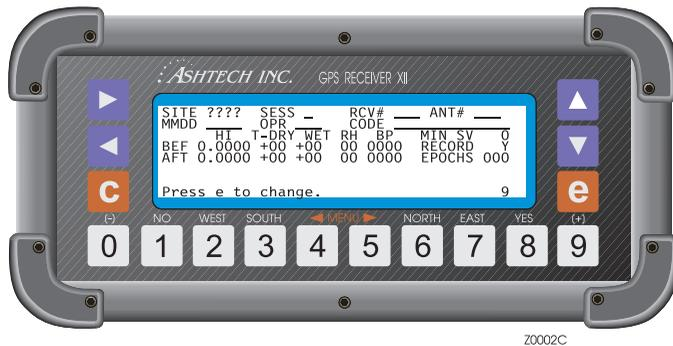

Figure 2.4. Screen 9 - Site and Session Control
- Call Screen 9, Site and Session Control (Figure 2.4) by pressing the **[9]** key. Like Screen 4, you do not have to alter information to successfully conduct a static survey. However, entering information now assists in automatic processing.